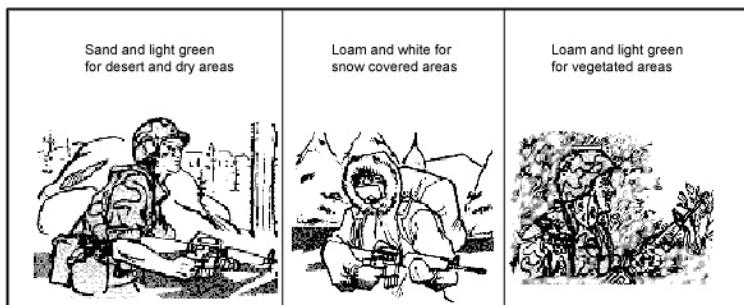

Figure 052-191-1361-1. Colors Used for Camouflage
- d. Color. Blend individual camouflage with the surroundings or, at a minimum, ensure that objects do not contrast with the background (figure 052-191-1361-1).